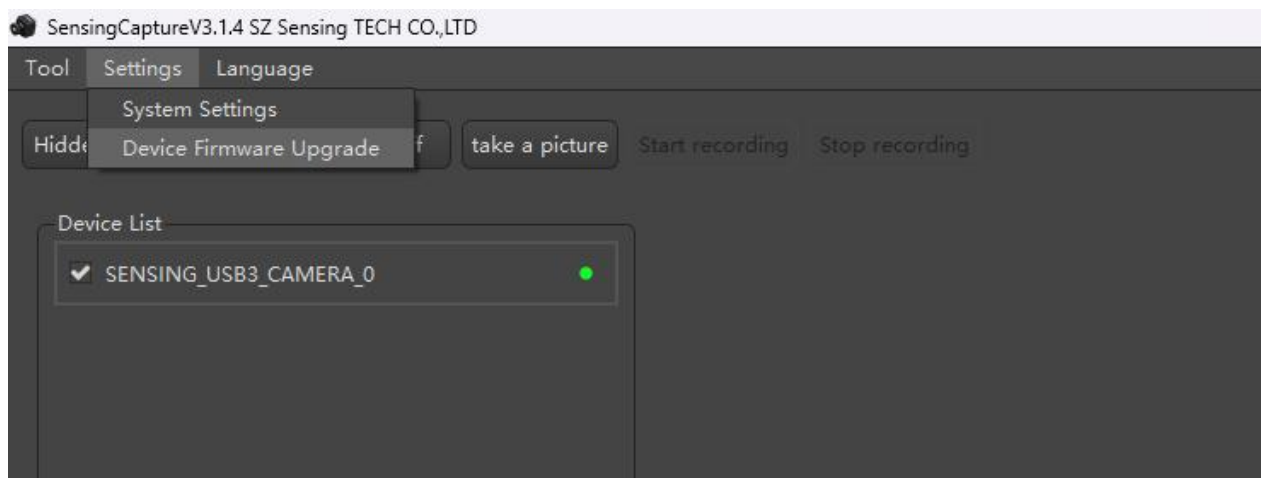

Figure 1-25
Step 2: Open the host computer software. In the upper left corner, go to Settings and select "Device Firmware Upgrade", as shown in the framed area in Figure 1-25.